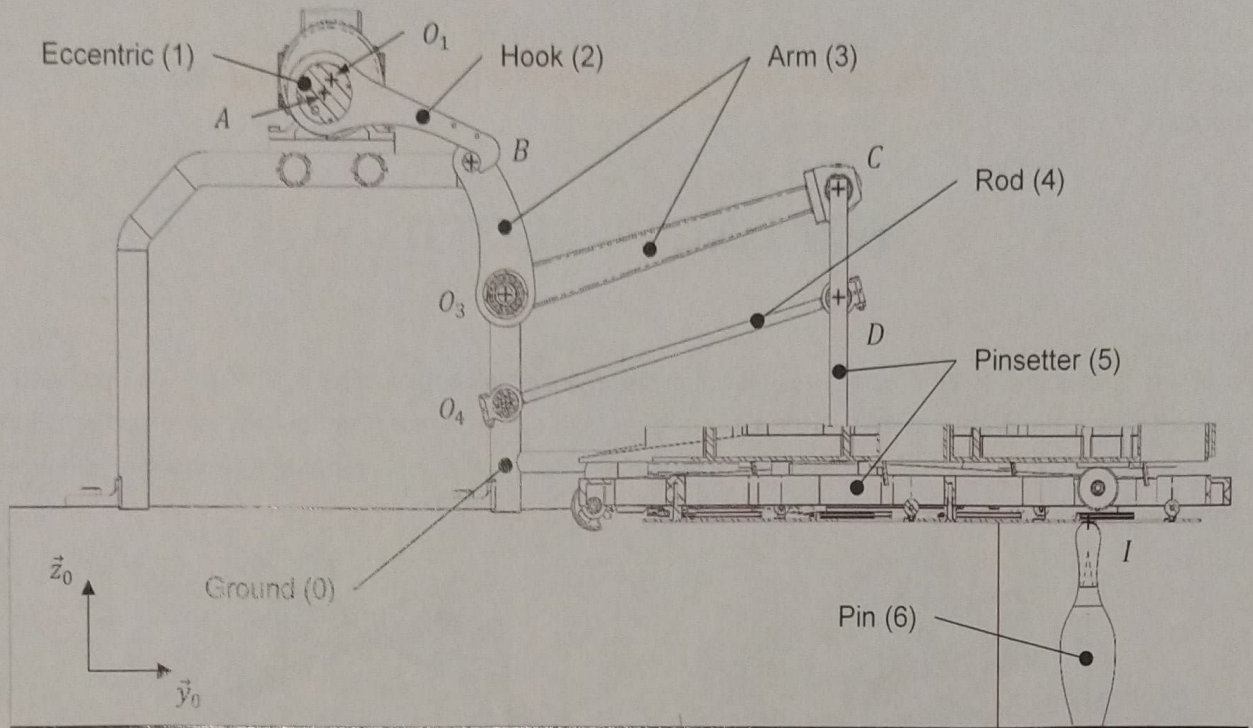

Figure 3 : Pinsetter in intermediate position
**Description :** (see Figure 3)